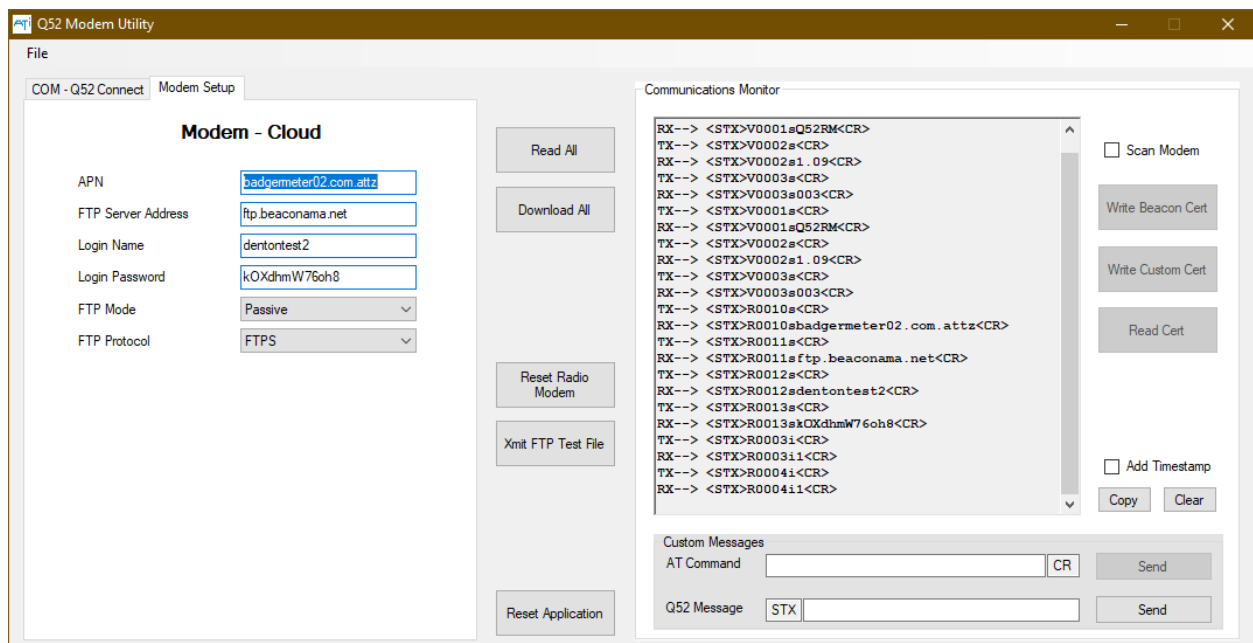

Figure 14: PC Utility config APN screen
- Click the **Read All** button. The PC queries the device and displays the current setup/configuration settings as shown in Figure 14.